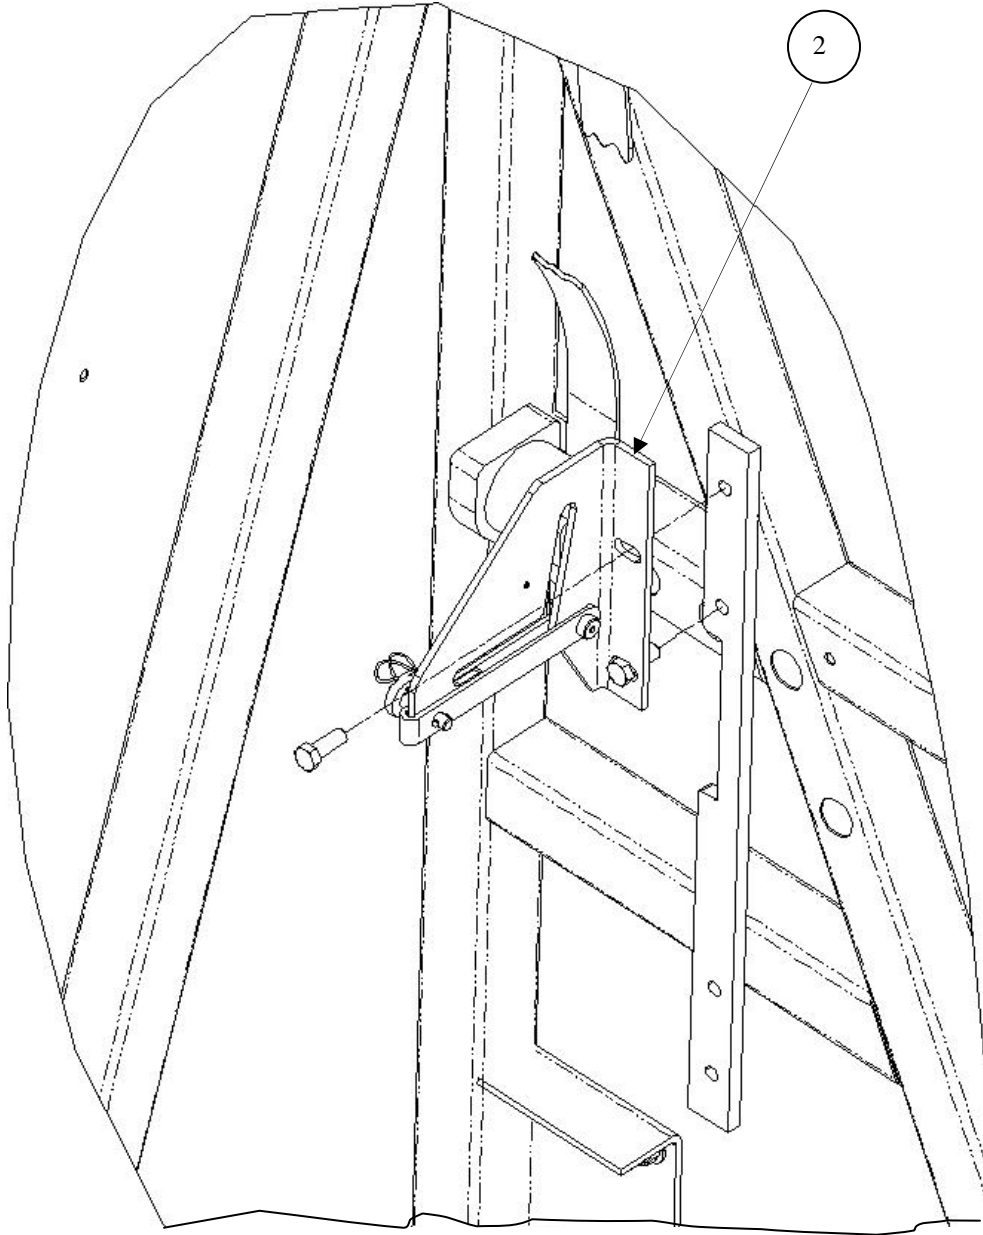

Figure 3-89. Seat Back Quick-Release Installation.
1. Install seat back quick-release as follows (see Figure 3-89):
- b. Install one left release assembly bracket (not shown) (1) and one right release assembly bracket (2) and secure each with bolts removed in previous step.